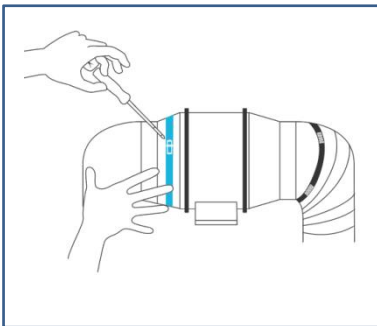

Fig.10.
- 1、 If installing ducting, purchase a suitable duct and duct clamp and secure it to both ends of the fan to ensure tight sealing. Finally tighten the air duct clamp with a screwdriver. See the (Fig.10.)